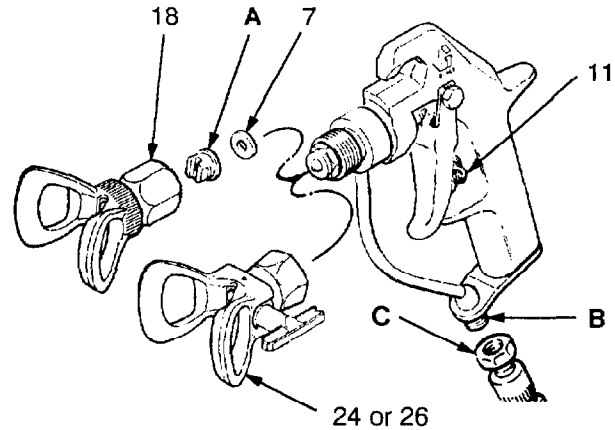

Fig 1
1. Connect a grounded fluid hose (C) to the gun inlet (B). See Fig 1.
All other models: with the gun safety latch (11) engaged, unscrew the tip guard (18) and install the tip (A) and gasket (7) in the nut of the tip guard. Screw the assembly firmly onto the gun. Tighten with a wrench. See Fig 1.